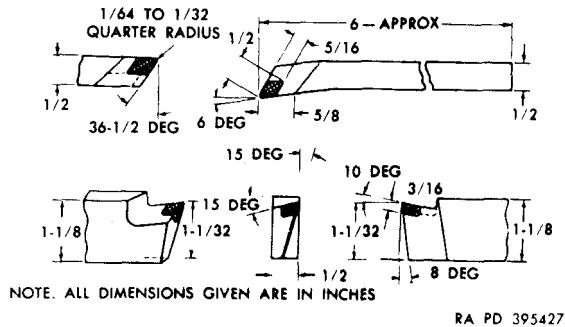
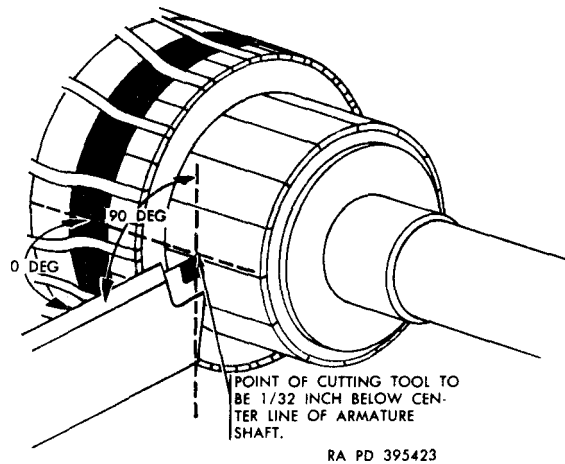

Figure 4-22. Cutting tool sharpening dimensions
Figure 4-23. Proper position of cutting tool.
a. *Resurfacing.* Sharpen lathe cutting tool to the dimensions given in figure 4-22. After grinding, hone the tool with a fine hard stone to ensure a smooth cut during the turning operations. Position the tool with respect to the commutator as shown in figure 4-23. Resurface the commutator at 800 rpm taking only light cuts each time. No more than 0.005 inch should be removed during any one cut and the final cut should not be more than 0.002 inch. After